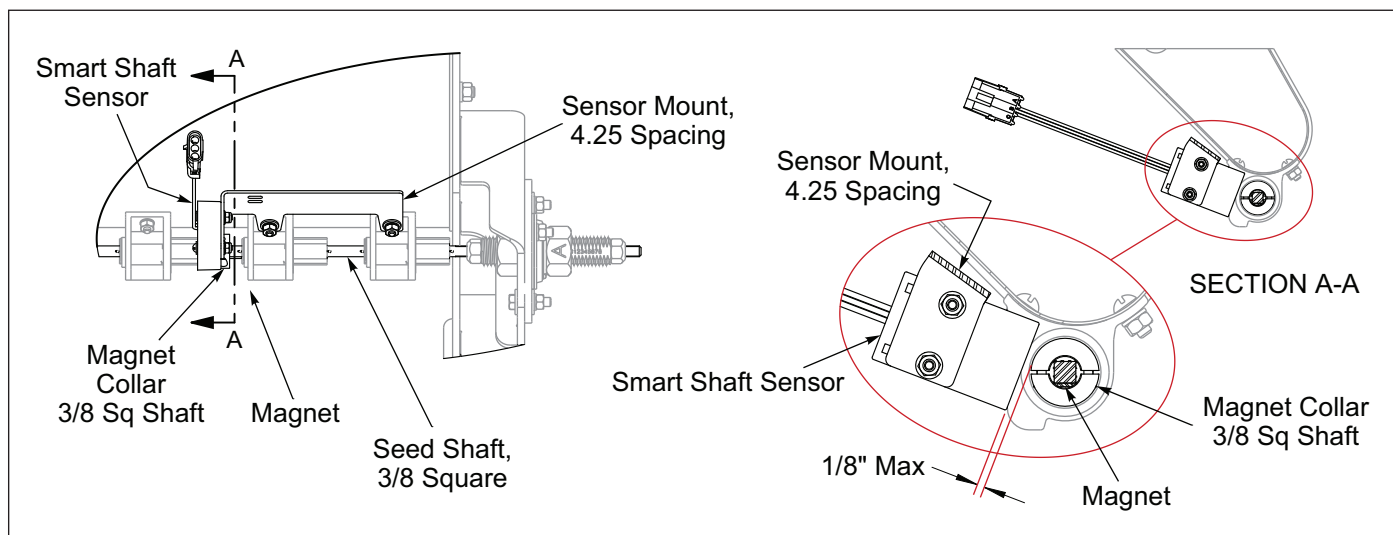
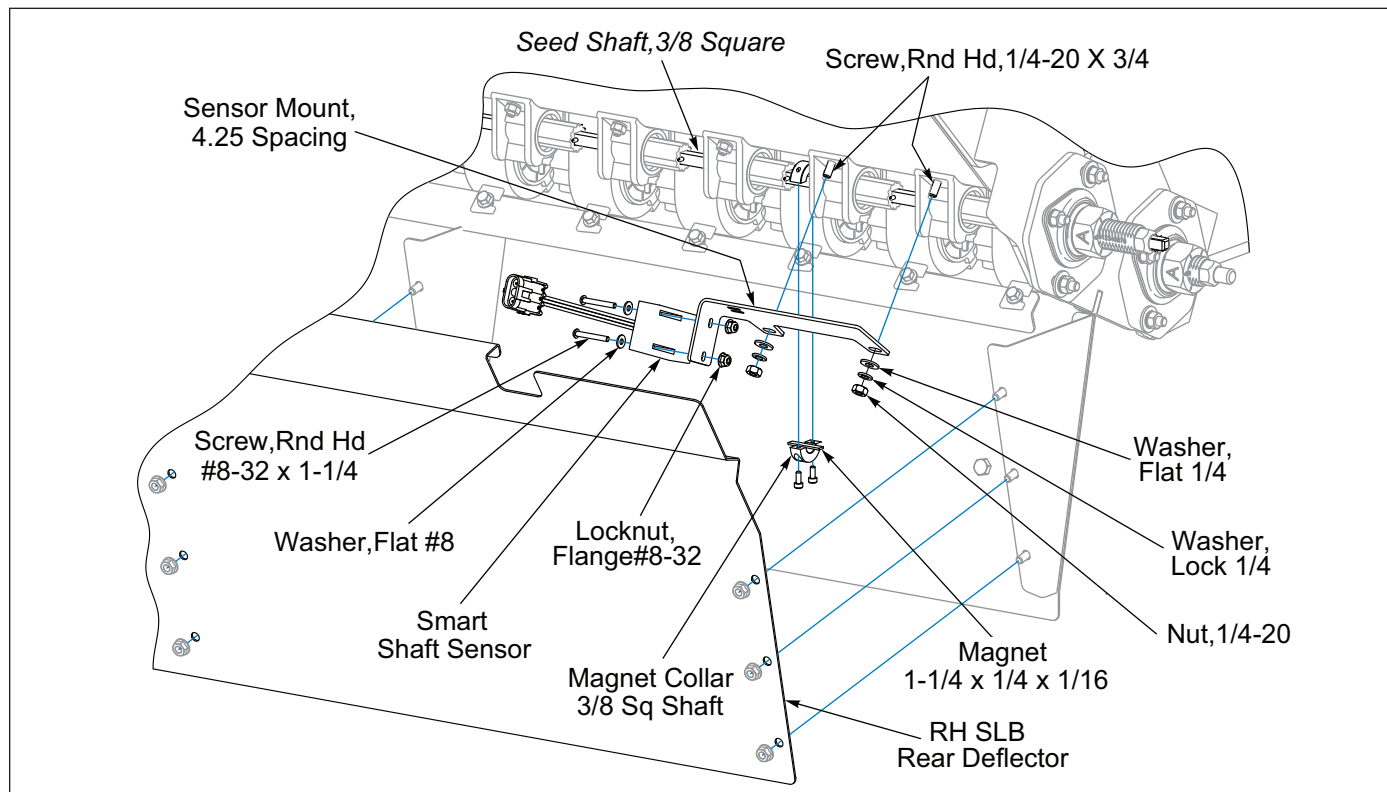

Figure 2-30: Rear Seed Box Smart Shaft Sensor Detail
Figure 2-35: Brillion Elite Mini Monitor - Rear Seed Box Seed Shaft Sensor
4. If equipped with a Rear Seed Box, removed the RH Rear Deflector and replace it with notched RH Rear Deflector which allows access to the Smart Shaft Sensor. **See Figure 2-35.** Rear RH side Seed Box between the 2nd and 3rd Seed Meters, place 1-1/4 x 1/4 x 1/16 Magnet on the Seed Shaft. Secure with Magnet Collar. Remove the 1st and 2nd Seed Meter rear Round Head Machine Screws that mount the Seed Meter to the Seed Box and replace them with 1/4-20 x 3/4 Round Head Machine Screws. Install the Sensor Mount on the 1/4-20 x 3/4 Machine Screws. Secure with Flat Washers, Lock Washers and Nuts. Install a Smart Shaft Sensor to the Sensor Mount with sensor provided hardware and #8-32 Flange Locknuts. Adjust the Smart Shaft Sensor so that it is 1/8" Max away from the Magnet Collar on the Seed Shaft. **See Figure 2-30.** Connect the Smart Seed Shaft Sensor to the Seeder Harness.